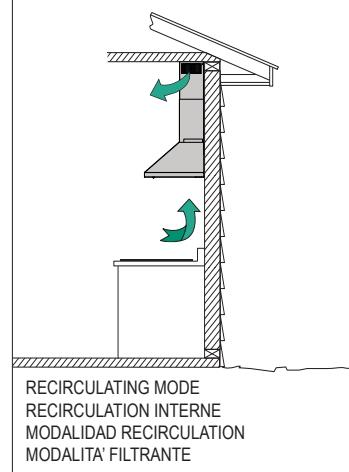

Fig.4
3.2. METAL ANTI-GREASE FILTERS (Fig. 4 ⑩)
3.3. ACTIVATED CARBON FILTERS (Fig. 4 ①)